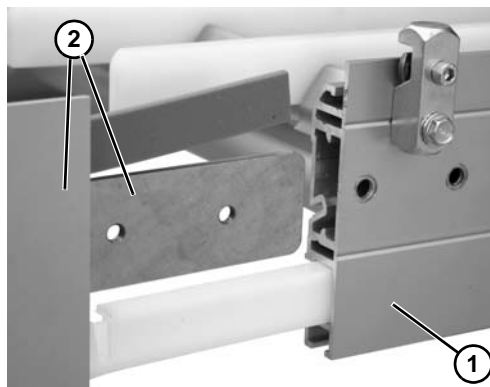

Figure 88
3. Separate conveyor frame (**Figure 88, item 1**) from knuckle assembly (**Figure 88, item 2**).